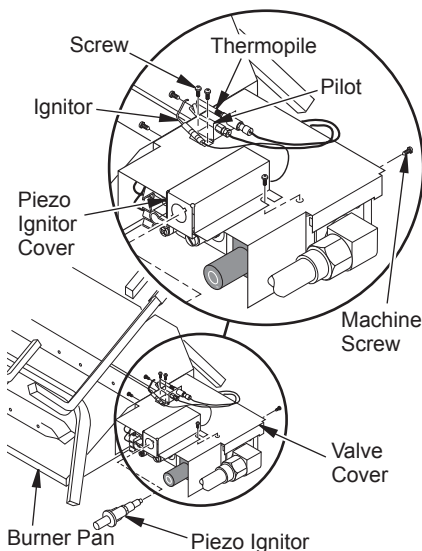
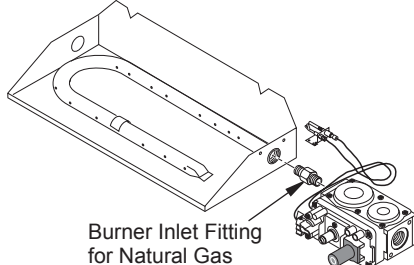
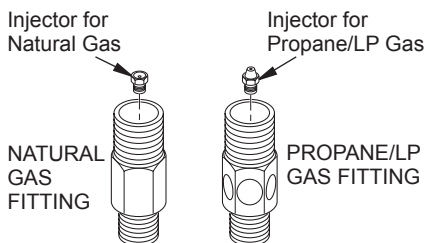

Figure 7 - Removing/Installing Thermocouple, Pilot, and Piezo Ignitor Cover
Figure 8 - Remove Burner Inlet Fitting
Figure 9 - Burner Inlet Fittings with Injectors
1. Remove pilot assembly from valve cover by removing two screws on bracket (see Figure 7).
3. Remove two (2) screws on burner pan and remaining screw on rear of the control valve to remove valve cover.
4. Unthread control valve and burner inlet fitting from burner tube by turning valve counter-clockwise (see Figure 8).
5. Remove natural gas inlet fitting from control valve and discard (see Figure 8). DO NOT remove orifice from this fitting. The propane/LP burner inlet fitting is included in the hardware kit (see Figure 9).
4. Reattach pilot and piezo ignitor assembly to valve cover with screws previously removed (see Figure 7, page 8).